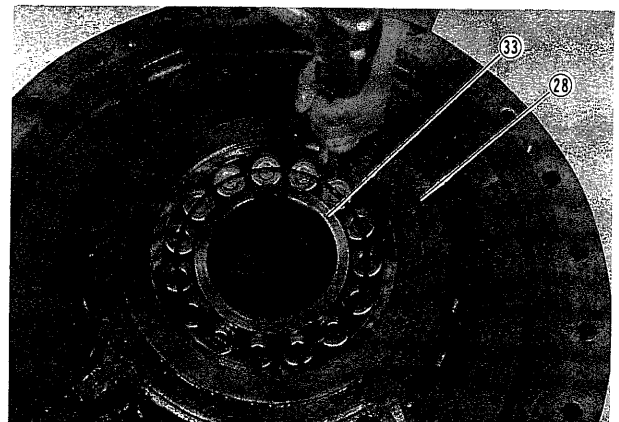

Fig. 82
Take off bearing (33) from axle shaft (28) (SV91T, SV91D & SV91DP) and axle shaft (55) (SV91) (Fig. 73, Fig. 82)